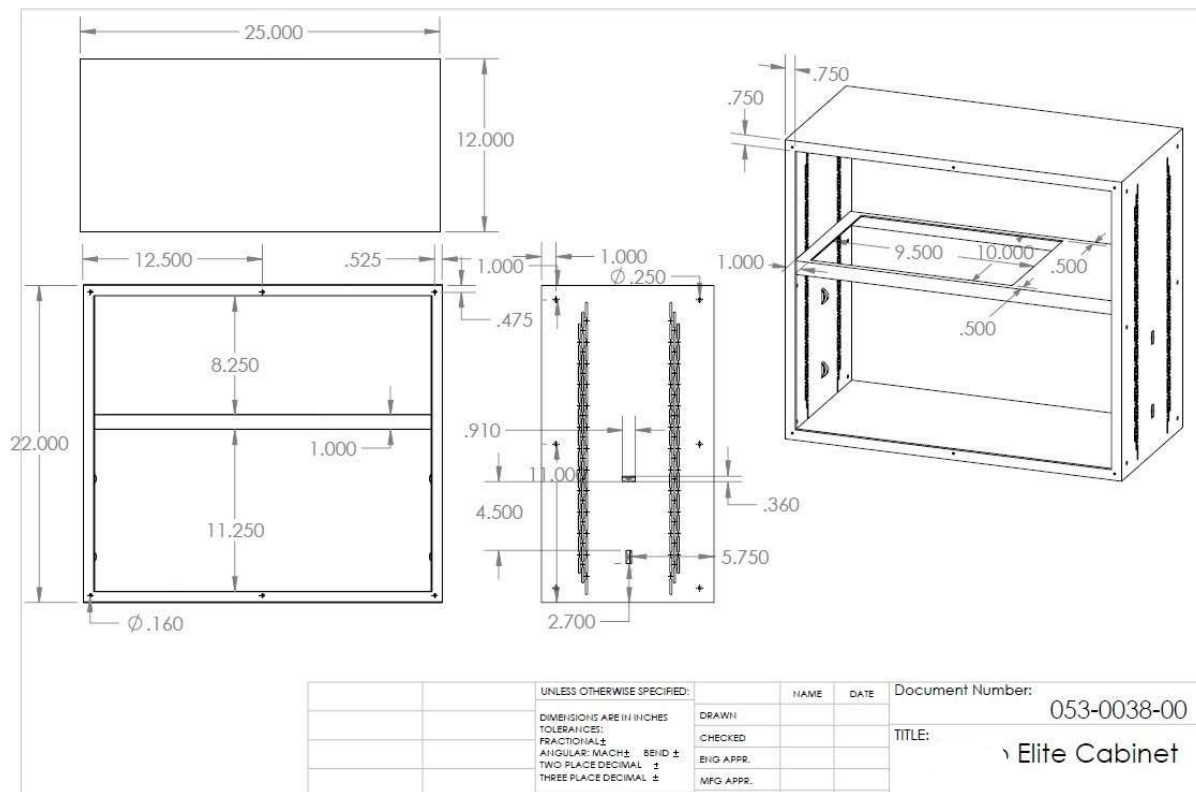
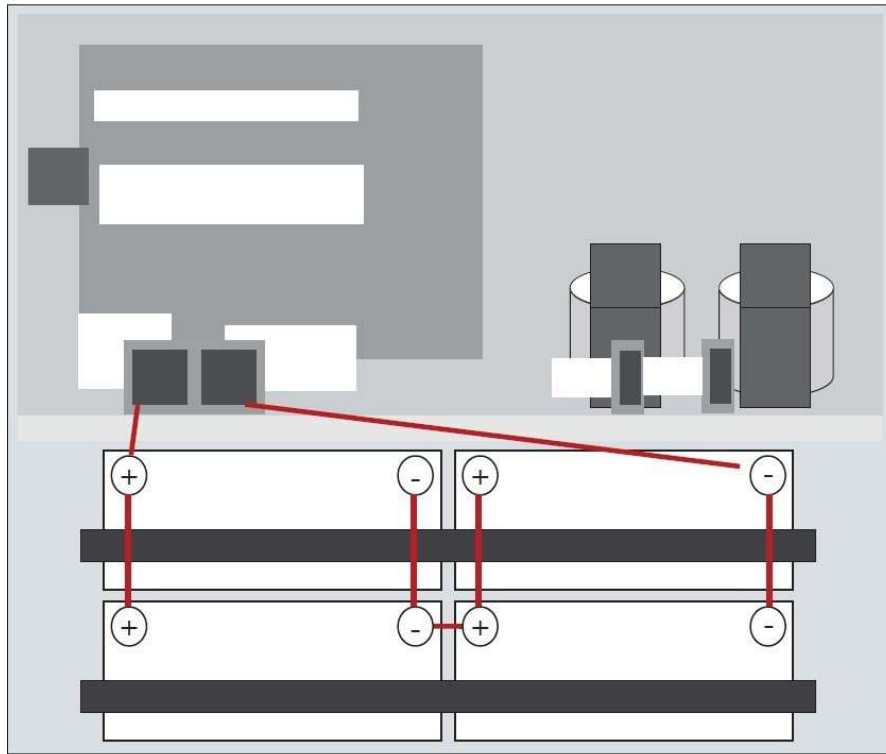

Figure 1
Figure 2
Note: Per code requirements, leave 3" on each side of the cabinet (including the back) and 3-foot clearance in front (Refer to Figure 1).
6.1.5. Make sure the proper polarity is observed. DC bus should be between 23.1 and 27.6 Vdc as tested at the Battery Bus Terminals (Refer to Figure 2 and 6—System Component Layout).
6.1.7. Securing the batteries. Each Unit will come with a couple banding poly plastic strips (See figure 2), along with a couple metal buckle to tighten the batteries to the cabinet. The cabinet was designed with four battery strap holders. These are located on each side of the cabinet (See figure 1). The bottom two (vertical opening - left and right) are to secure the battery to the back wall when strapped. The two on top (horizontal opening - left and right) are to secure the battery to the bottom of the cabinet.